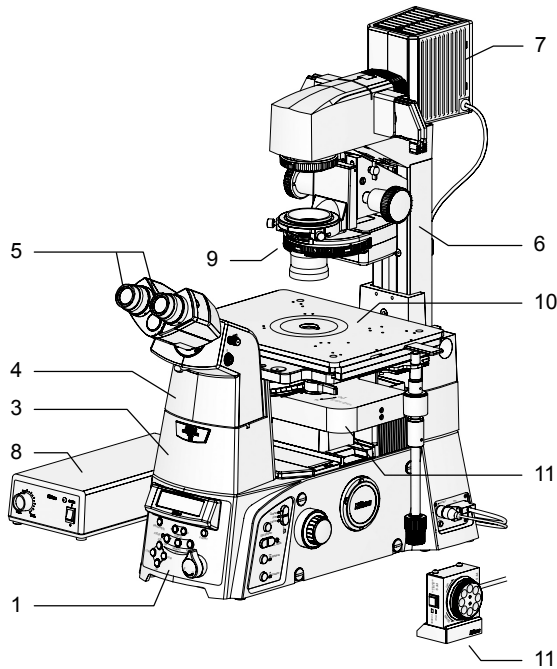

Figure 2-1 Sample configuration
* "2. AC adapter, power cord" not shown in Figure 2-1.